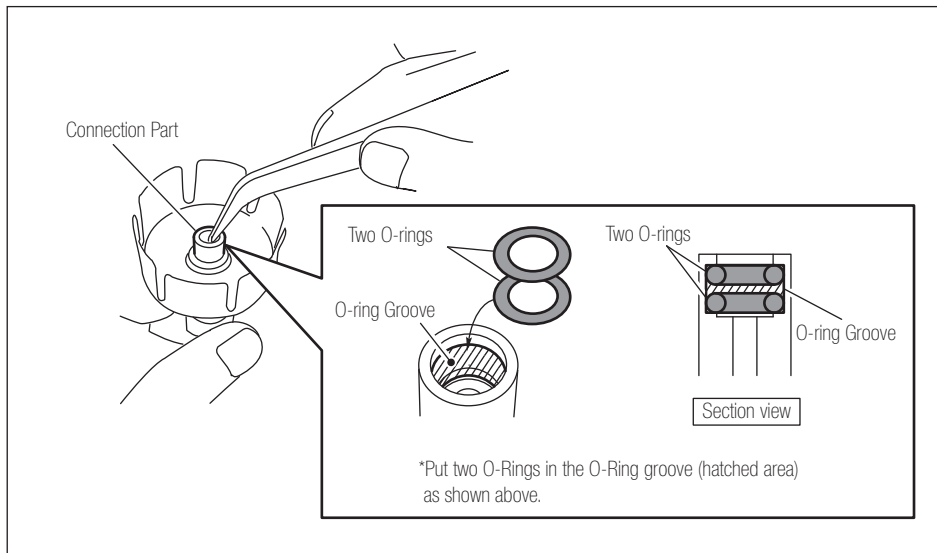

Fig. 16
- (1) Remove two defective O-rings with tweezers or a similar instrument from inside the ON/OFF Valve's Connection Part.
- (2) Set two new O-rings (included in the package) in the O-ring Groove (hatched area in Fig. 16) with tweezers or a similar instrument.